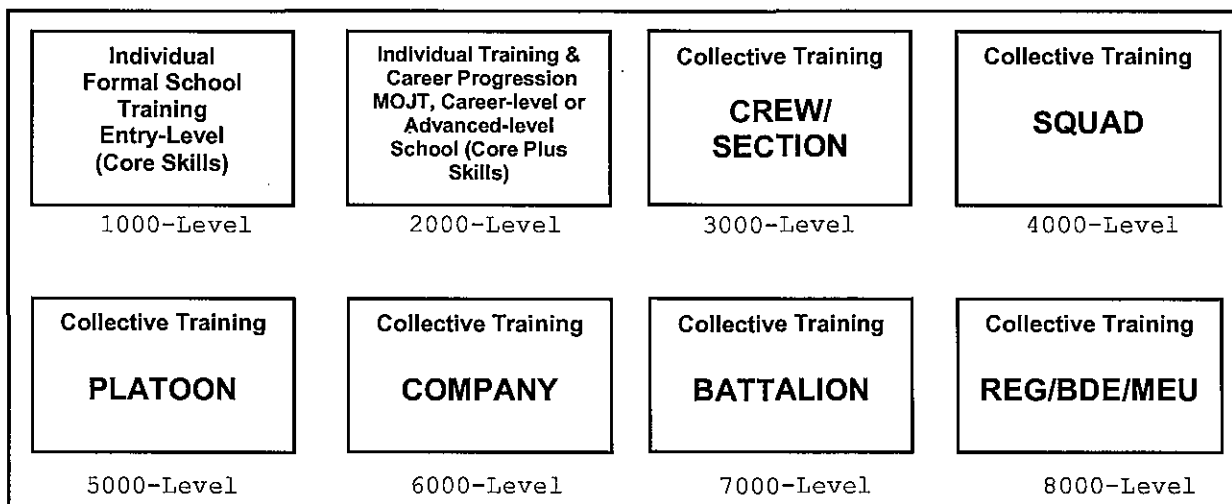

Figure. 1-1 T&R Event Levels
c. Third 4 characters indicate the unit size and supported unit, if applicable (1000 through 9000), and sequence. Figure 1-1 shows the relationship of unit size to event code. NOTE: The titles for the various echelons are for example only, and are not exclusive. For example: 4000-level events are appropriate for Section-level events as noted, but also for Squad-level events.
(1) Grouping. Categorizing events with the use of a recognizable code makes the type of skill or capability being referenced fairly obvious. Examples include: PAT for patrolling events, DEF for events in the defense, FSPT for events related to fire support, etc. There is no special significance to the functional areas, but they should be intuitive to make it as easy as possible for the T&R user to find events. When organizing the T&R manual, functional areas are alphabetized then the associated events are numbered. The events will be numbered based upon the introduction of each new functional area, allowing up to "999" events. For example: if there are seven Administrative events 4431 occupational field, then the events should start 4431-ADMN-1001 and run through 1007. Next, the Bulk Fuel events, BUFL should start at 4431-BUFL-1001.
(2) Sequencing. A numerical code is assigned to each individual (1000-2000-level) or collective (3000-9000-level) training event. The first number identifies the size of the unit performing the event, as depicted in figure 1-1. The second number is available for T&R Manuals with collective events that support those in other manuals to identify the echelon of unit being supported by a particular collective event. If a collective event is supported by other events or is performed in general support without regard to echelon, then a zero "0" will be utilized as the second number. For